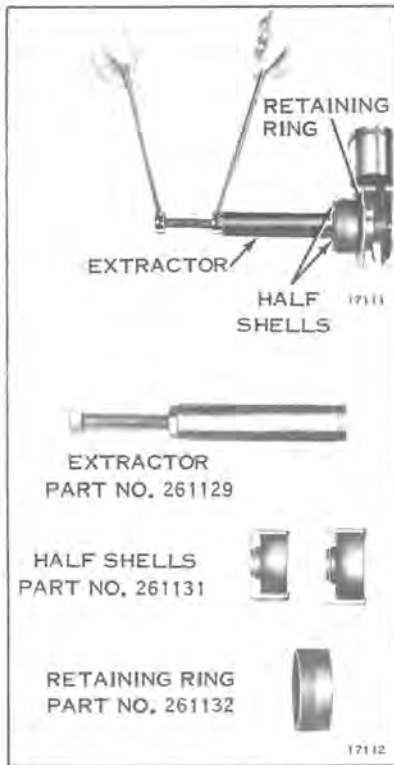

Figure 9-16
- f. If bearings must be replaced, remove the old bearings using the following procedure: Use special bearing removal tool shown in Figure 9-16. Position lips of half shells behind bearing and over extractor. Slide retaining ring over half shells. Turn extractor center screw to remove bearing. This tool is a must if main bearing replacement is required. Do not lose shims between bearing and crankshaft throw.